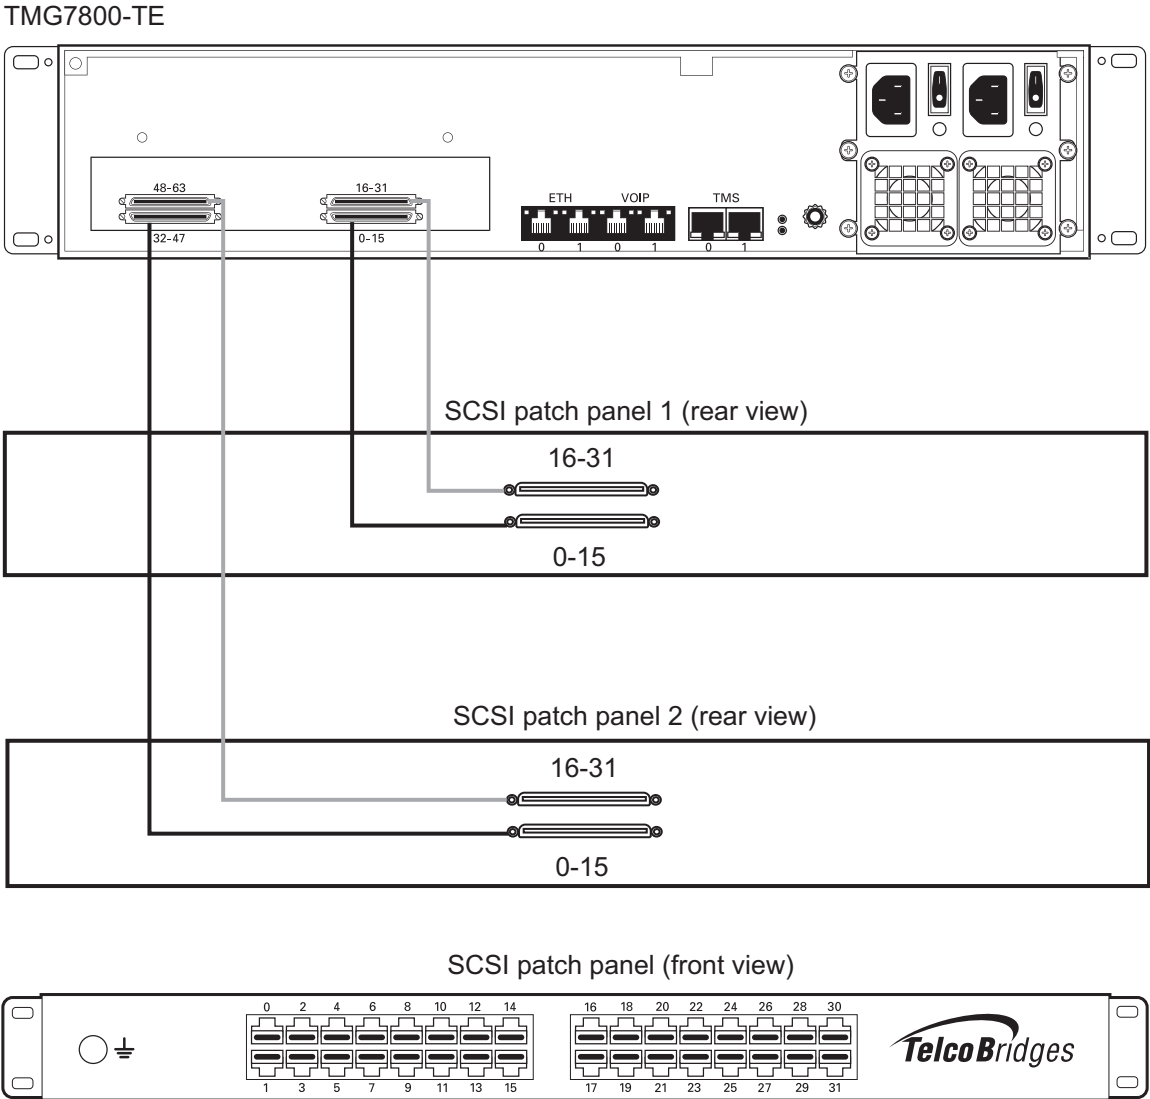

Figure 2.24 TMG7800 with SCSI connectors
1. Start with SCSI ports 0-15 located at the bottom right as shown in figure 2.24 on page 33. Connect one SCSI cable between this port and SCSI patch panel number 1, ports 0-15. Connect SCSI ports 16-31 to patch panel number 1, ports 16-31.